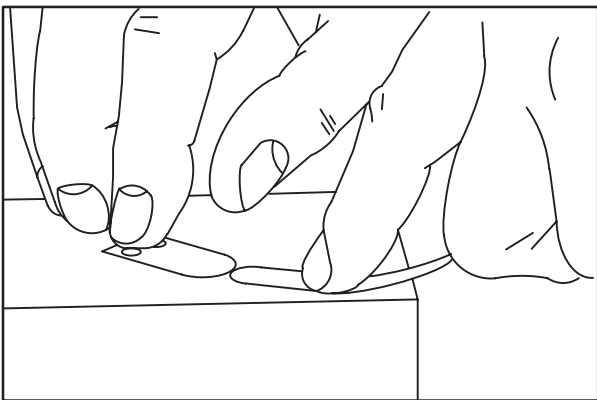

Fig. 11
3. Check reed valve for distortion with feeler gauge, **Fig. 11**.